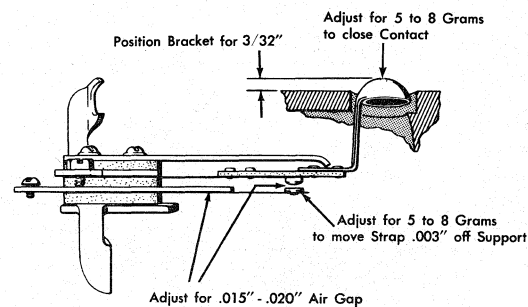

Figure 23. Card Lever Contact Adjustment
1. Form support strap of stationary contact for an .015-inch to .020-inch air gap (Figure 23).